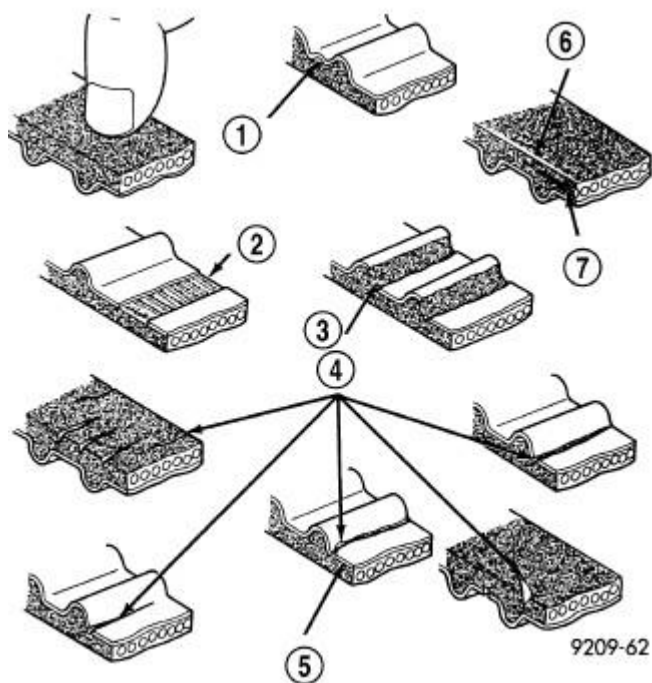

Fig. 513: Timing Belt Inspection
2. Inspect both sides of the timing belt. Replace belt if any of the following conditions exist: Refer to **Fig. 513.**